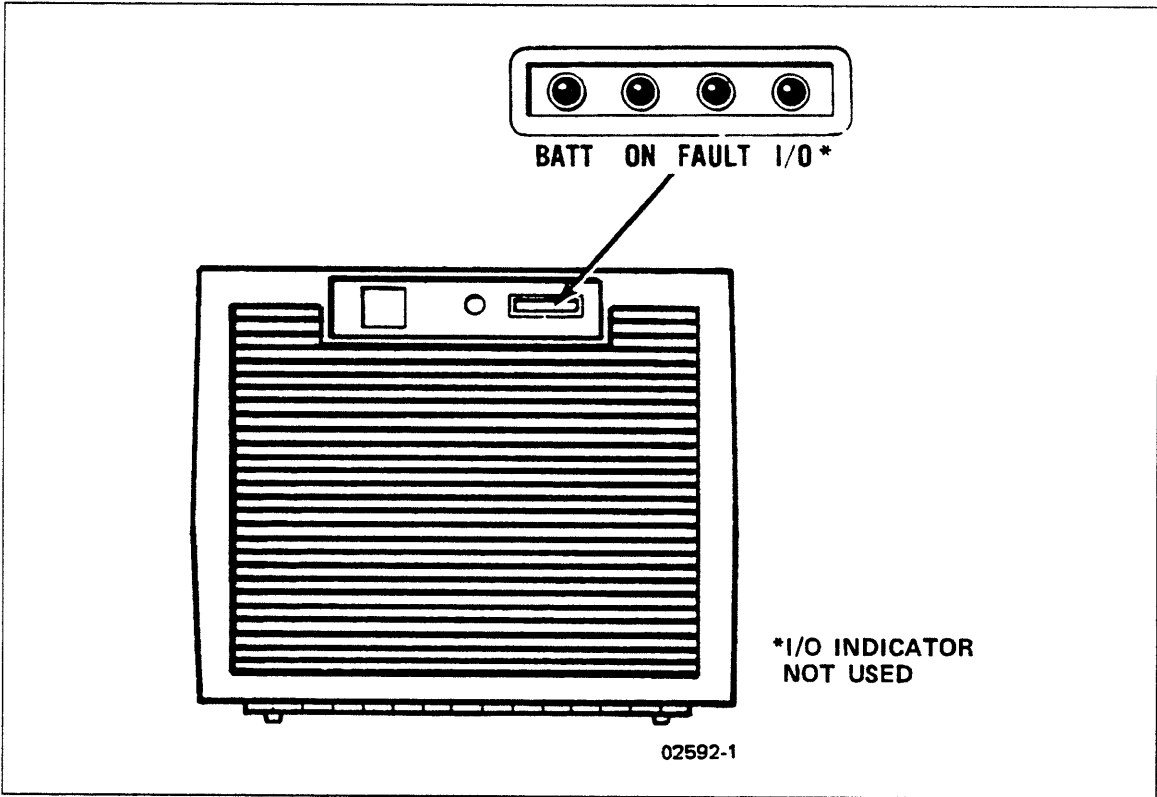

Figure 3-9. DI Cabinet Indicator Lights
5. Refer to figure 3-9 and check indicators on front of DI. The correct indications are as follows: